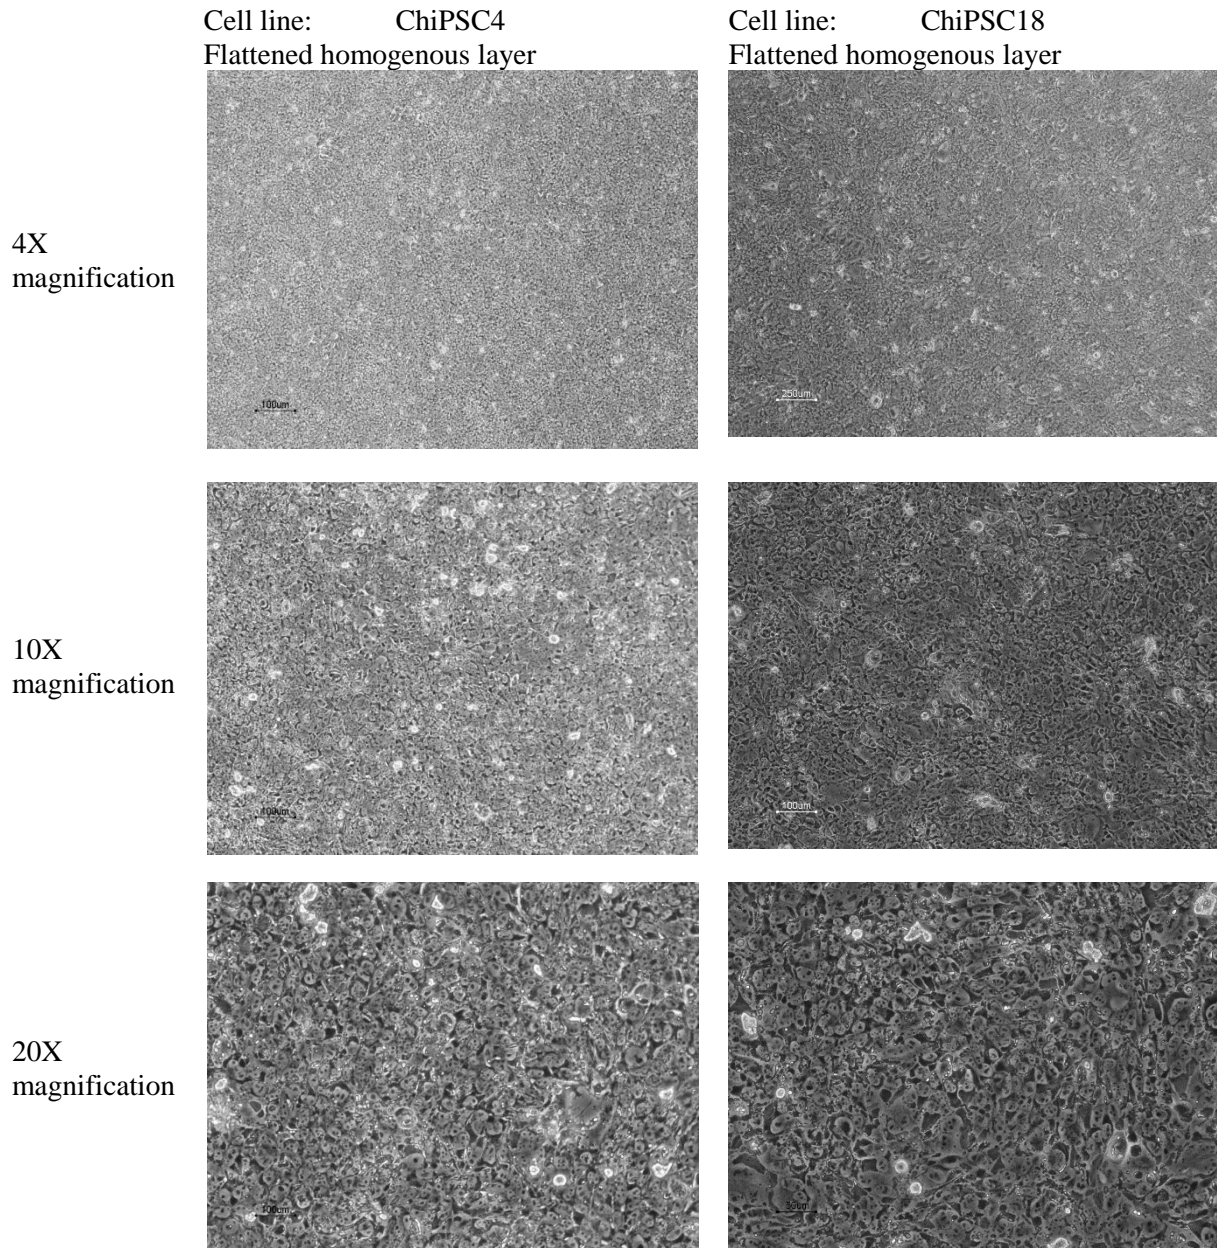
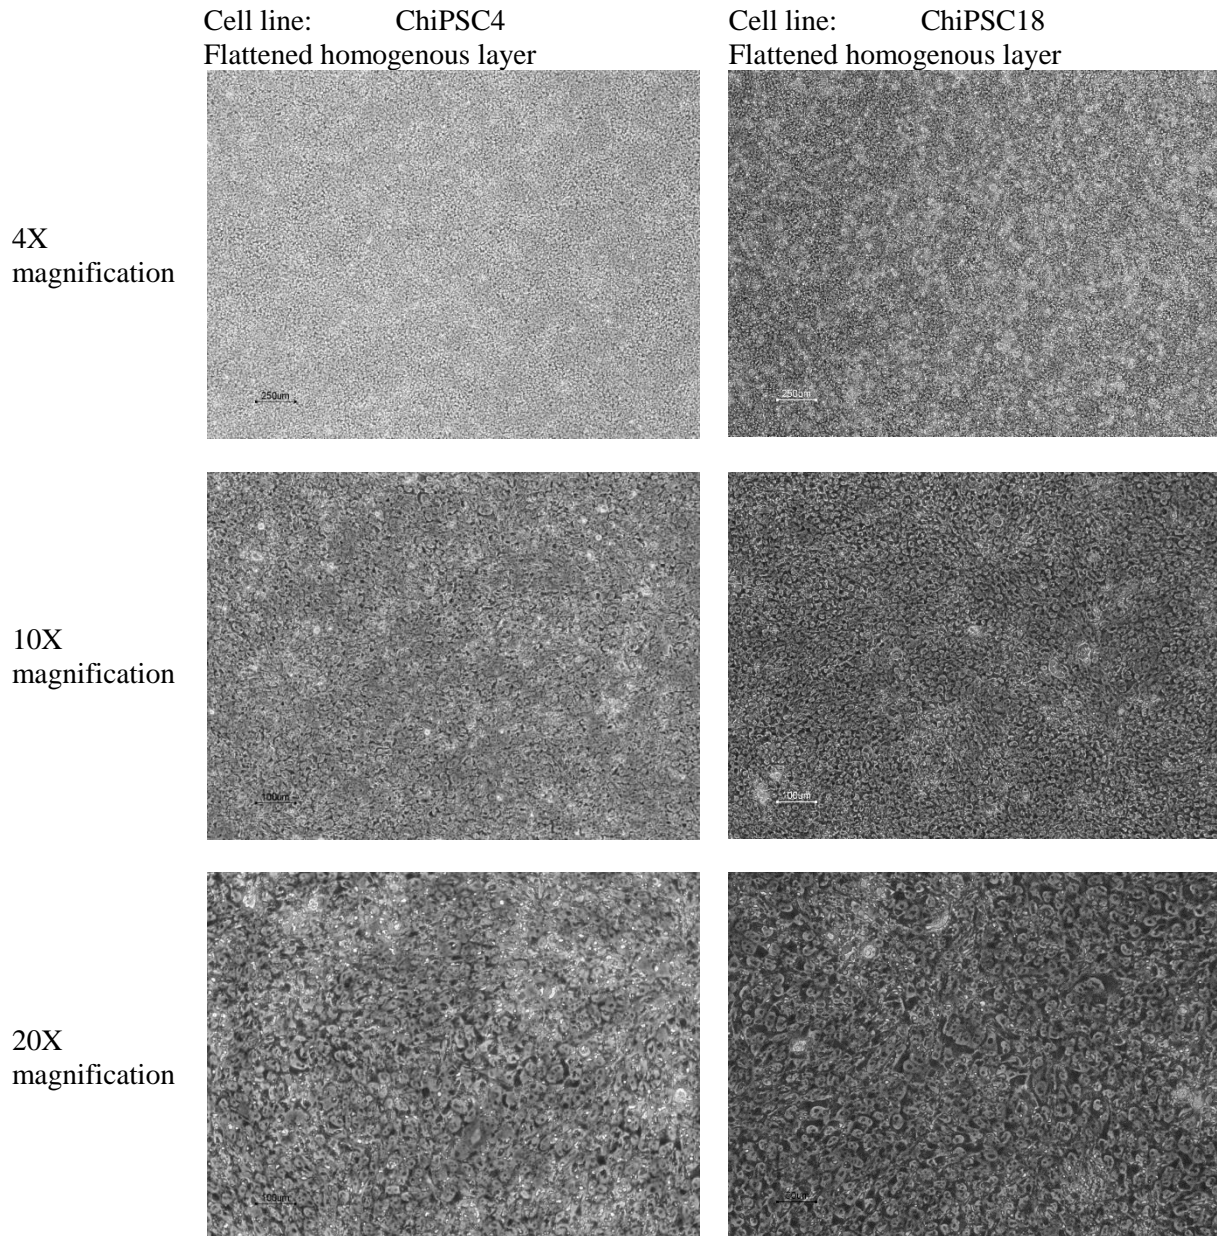

Figure 3. ChiPSC4 and ChiPSC18 cells cultured in the Cellartis DEF-CS Culture System. Cell density 1.5×10^5 cells/cm².
Figure 4. ChiPSC4 and ChiPSC18 cells cultured in the Cellartis DEF-CS Culture System. Cell density $>2 \times 10^5$ cells/cm².
- The cells might initially grow at a slightly slower rate. A suitable passage interval might therefore be between three and seven days for the first few passages. The cells are ready for passage when they have acquired the morphology displayed in Figure 3 and Figure 4. If the cells are sparse after seven days in culture, a passage is still recommended.
- Newly transferred cells might initially grow at a slightly slower rate. A suitable passage interval might therefore be between 3 and 7 days for the first passages. The cells are ready for passage when they have acquired the morphology displayed in Figure 3 and Figure 4. If the cells are sparse after seven days in culture, a passage is still recommended.